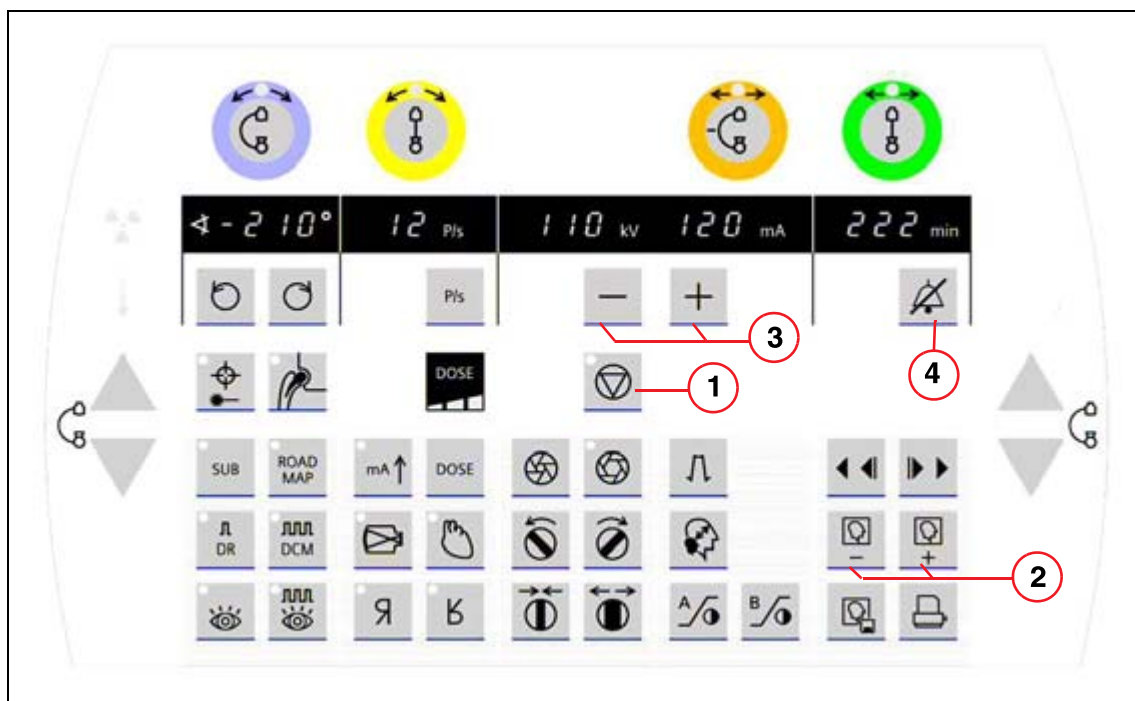

Fig. 10: Control board
5. **Start fluoro**, wait 5 seconds then press the **"KV STOP"** key (see Stop key (1/ Fig. 10 / p. 32)) on the control console.
6. **Adjust dose rate** by using the “mA” and “page” control console keys (2/3/Fig. 10 / p. 32).
- ⇒ Use keys [+page] and [-page] (2/3/Fig. 10 / p. 32) for 1/2 exposure points.
- ⇒ Use keys [+ mA] and [- mA] (3/3/Fig. 10 / p. 32) for 1/16 exposure points.
7. Press the “**alarm key**” (see alarm key (4/3/Fig. 10 / p. 32)) on the control console.